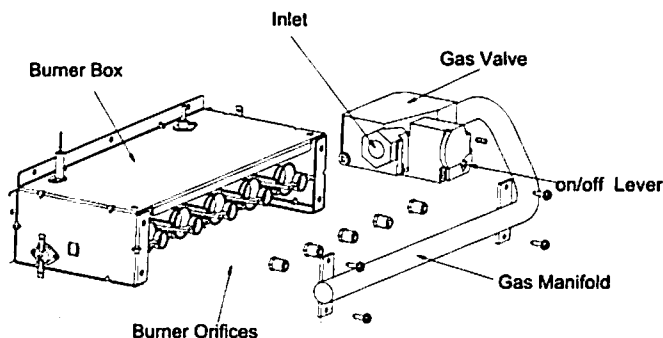

Fig 1. Typical Installation
1. Remove the four (4) fasteners that secure the gas manifold to the burner box, as shown in Figures 1. Carefully remove the gas manifold assembly from the burner box. Note that the gas manifold assembly consists of the gas valve, the gas manifold, and the orifices.
2. Carefully remove the burner orifices from the gas manifold, as shown in Figures 1.